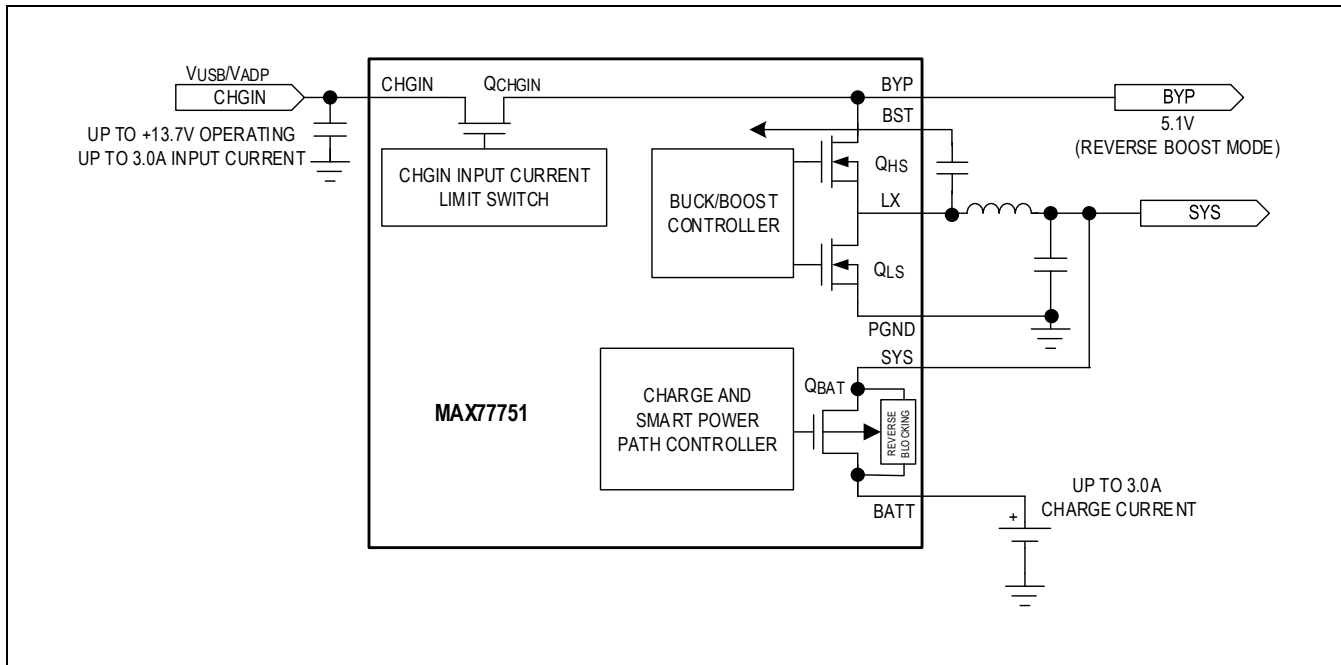
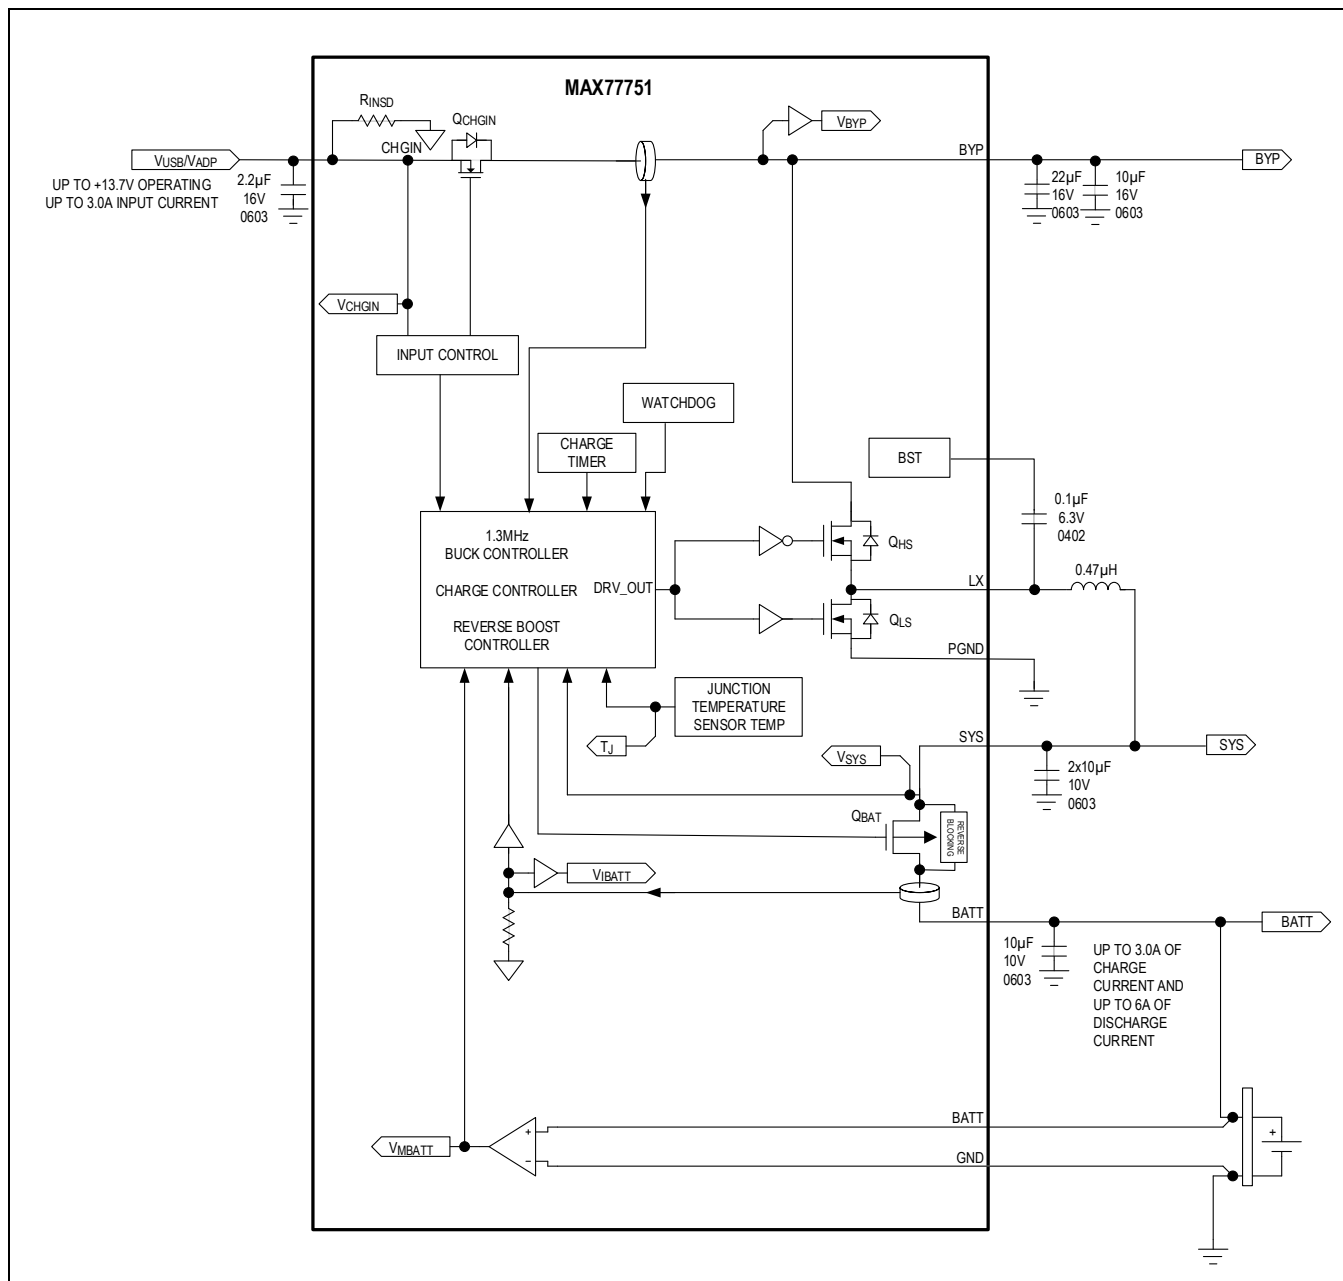

Figure 1. Simplified Functional Diagram
Figure 2. Battery Charger Detailed Functional Diagram
The MAX77751 includes a full-featured switch-mode charger for a one-cell lithium ion (Li+) or lithium polymer (Li-polymer) battery. As shown in Figure 2, the current limit for the CHGIN input is automatically configured allowing the flexibility for connection to either an AC-to-DC wall charger or a USB port.
Figure 1 shows a simplified arrangement for the smart power selector's power steering switches. Figure 2 shows a more detailed arrangement of the smart power selector switches and gives them the following names: QCHGIN, QHS, QLS, and QBAT.
- CHGIN Input Switch: QCHGIN provides input overvoltage protection of +16V. The input switch is either completely on or completely off. As shown in Figure 2, there are SPS control loops that monitor the current through the input switches as well as the input voltage.